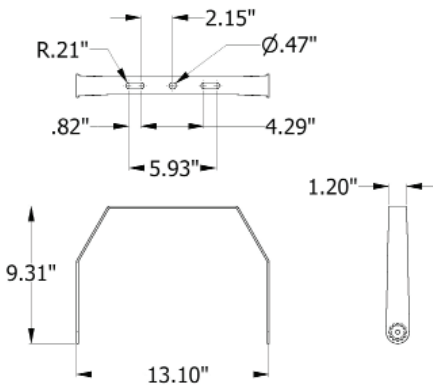

FIG. 11
- 3 FHZR 100 & 150 Trunnion Mount dimensions (Fig. 11).